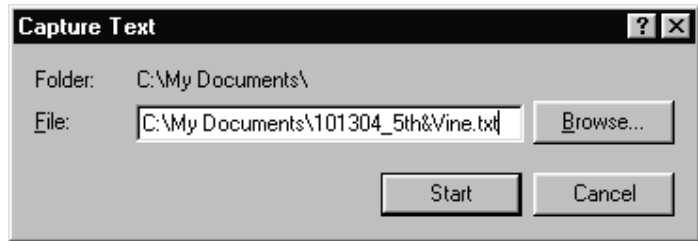

FIGURE 24
2. The '**Capture Text**' window appears see Figure 24 below. Enter a path and file name appropriate for the BBS unit. The example uses a date and intersection to designate the BBS. When finished click the **Start** button. The communication session will now be logged. The file will be saved automatically upon exit of HyperTerminal.